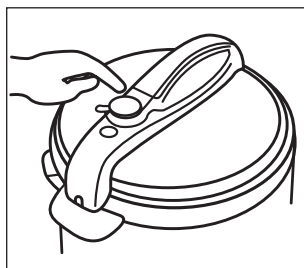

Figure 10a
5. Fix the pressure Relief Valve (3) in place as the figure 10 shows: turn it to "Airproof" position and check whether the Floater (5). The Floater (5) should be down in place before heating (see the figures 10a, 10b).